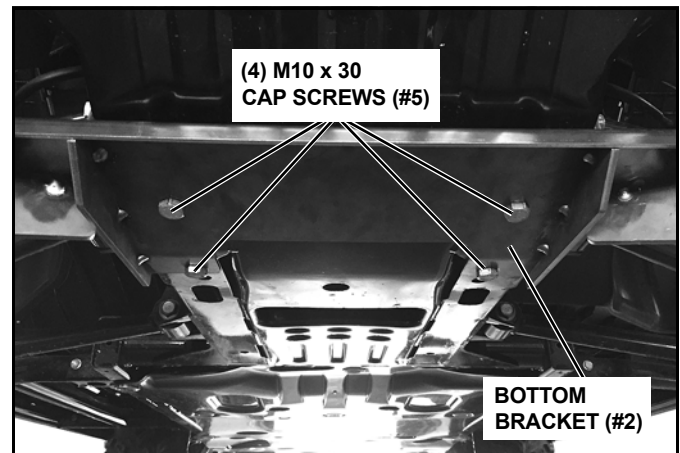

Figure 2
3. Align (4) bottom holes in the Bottom Bracket (#2) with (4) holes in the bottom of the machine. Insert (4) M10-1.25 x 30 Cap Screws (#5), (4) M10 Lock Washers (#6), and (4) M10 Flat Washers (#7) through the holes in the Bottom Bracket (#2) and into the UTV. (See Figure 2.)